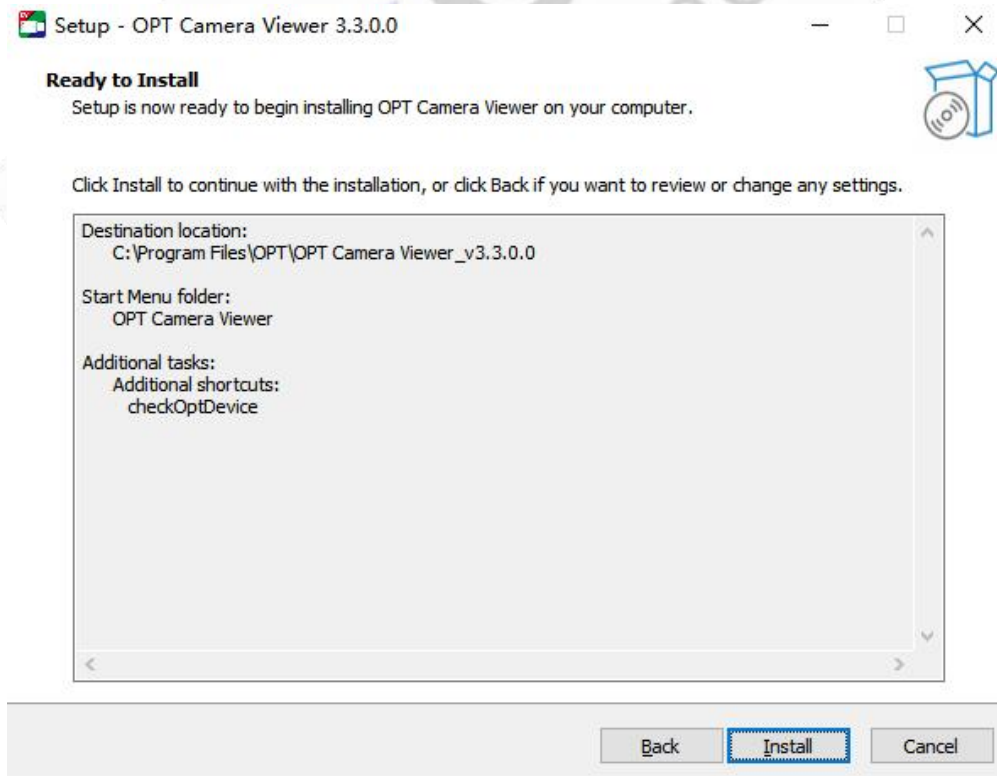

Figure 3-3 Preparing the installation window
Step 4 Enter the preparation installation window as shown in Figure 3-3, check the installation summary information and click the Next button to continue the installation process.